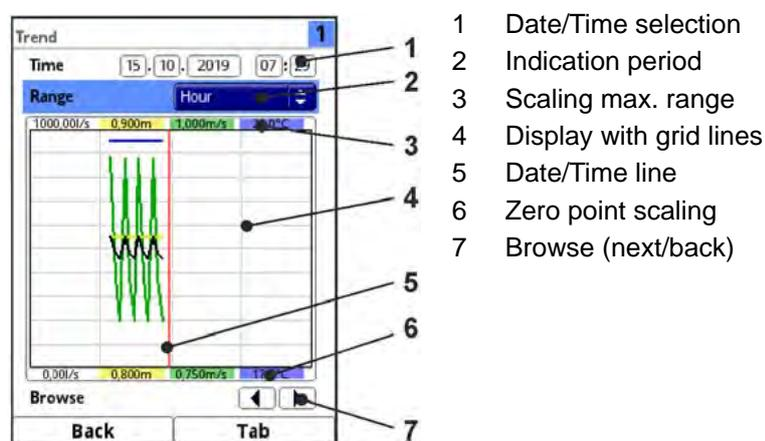

Fig. 33-2 Trend Graph Details
2. Use the arrows (Fig. 33-2 no. 7) to browse next or back if required leaving the basic display settings unaltered.
The **Date/Time Selection** (Fig. 33-2 no. 1) can be found in the top area of the main screen. The line is highlighted blue and hence active.
5. Confirm your entry with the right function key. Date and time will be accepted. The readings are shown in the display depending on the date and the period selected (Fig. 33-2 no. 2). The vertical red line (Fig. 33-2 no. 5) marks the selected point of time (date and time).
➡ Modify the setting using the >Range< section (see Fig. 33-2 no. 2).